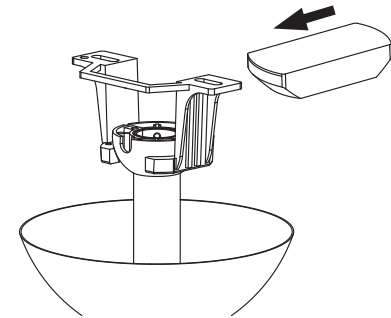

Fig. 13
**Step 1 .** Insert the receiver into the ceiling mounting bracket with the flat side of the receiver facing the ceiling (**Fig.13**) for best performance, make sure the black antenna wire (on the end of the receiver) remains extended, and does not become tangled with the electrical wires.
Make each of the wire connections illustrated in Fig. 13. Secure each with the wire nuts provided.